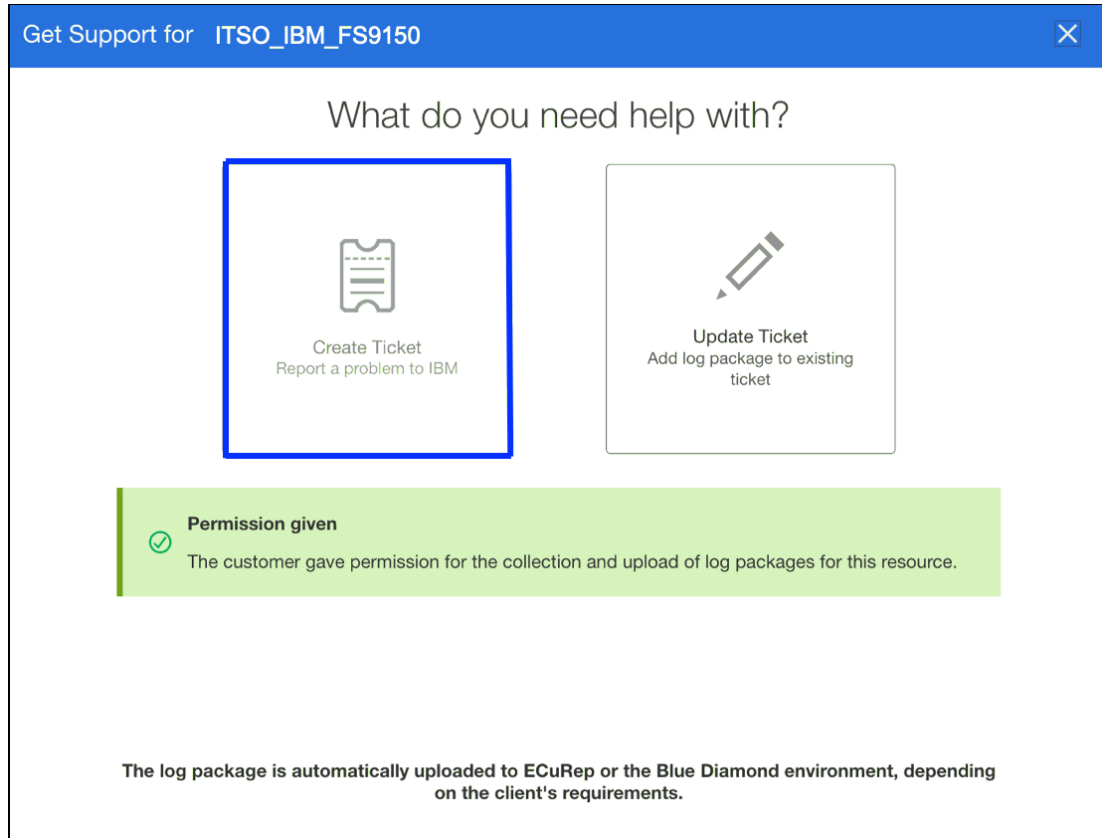

Figure 11-13 Create ticket option
2. Select **Create Ticket** (see Figure 11-13). Several windows open in which you enter information about the machine, a problem description, and the option to upload logs.
**Note:** The Permission given information box (see Figure 11-13) is an option that the customer must enable in the IBM FlashSystem GUI. For more information, see 11.4, "Remote Support Assistance" on page 547.